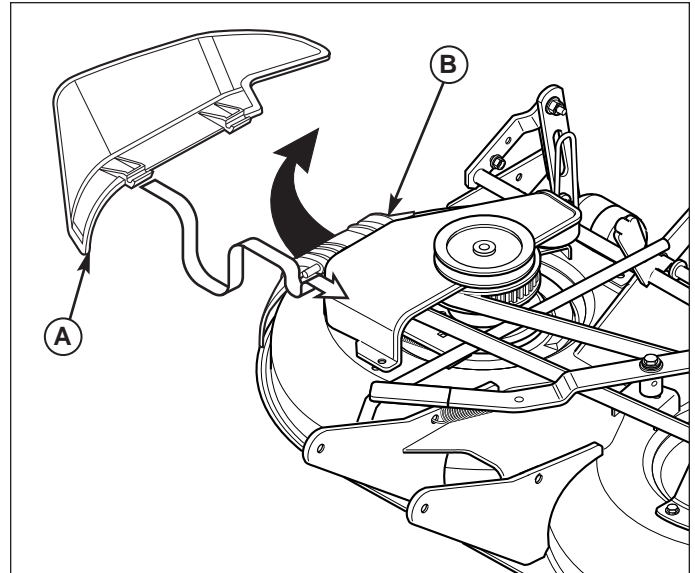

Figure 4. Installing the Side Discharge Deflector
1. Lift up the mulching cover (B, Figure 4).
2. Install the side discharge deflector (A) under the mulching cover. The side discharge deflector hooks onto the mulching cover hinge rod, and is held in place by the mulching cover.